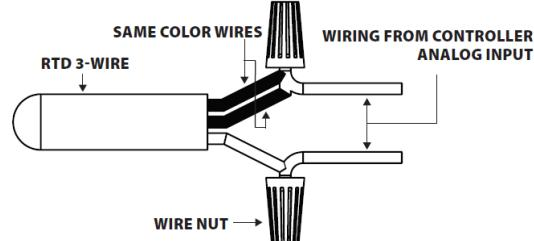

Figure 4
Carrier recommends 16 to 26 AWG twisted pair wires or shielded cable for all temperature sensors. Carrier recommends a separate cable be pulled for Temperature signal only. Temperature Signal wiring must be run separate from low and high voltage wires (24/120/230VAC). All thermistors and RTD temperature sensors are both non-polarity and non-position sensitive. All thermistor type units are supplied with (2) flying lead wires, and all RTD's are supplied with (2) or (3) flying lead wires – see Figure 4. The number of wires needed depends on the application. Connect thermistor/RTD wire leads to controller analog input wires using wire nuts, terminal blocks, or crimp style connectors. All wiring must comply with local and National Electric Codes. After wiring, attach the cover to the enclosure.
- When using a shielded cable, be sure to connect only (1) end of the shield to ground at the controller. Connecting both ends of the shield to ground may cause a ground loop. When removing the shield from the sensor end, make sure to properly trim the shield to prevent any chance of shorting.
- If the controller requires a (2) wire input for a RTD, connect the (2) common wires (same color) together. If the controller requires (3) wires, use (3) individual wires - see Figure 4.